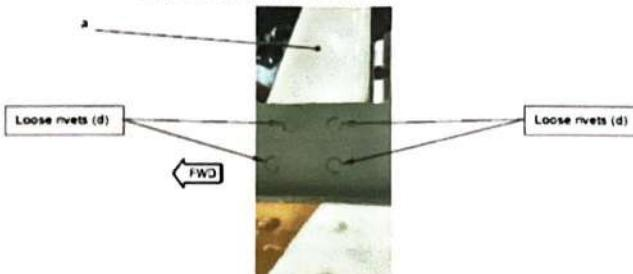

Figure 2
- Cut and remove the Teflon Tape (c) on the hatched area (A) with the cutter (yy) (not shown).
**3.B.2.d. Visual inspection of the rivets head of the rear bearing support under the Teflon tape (Figure 2)**
A loose rivet is a rivet with black mark or missing paint around the rivet head, refer to the Figure 2.